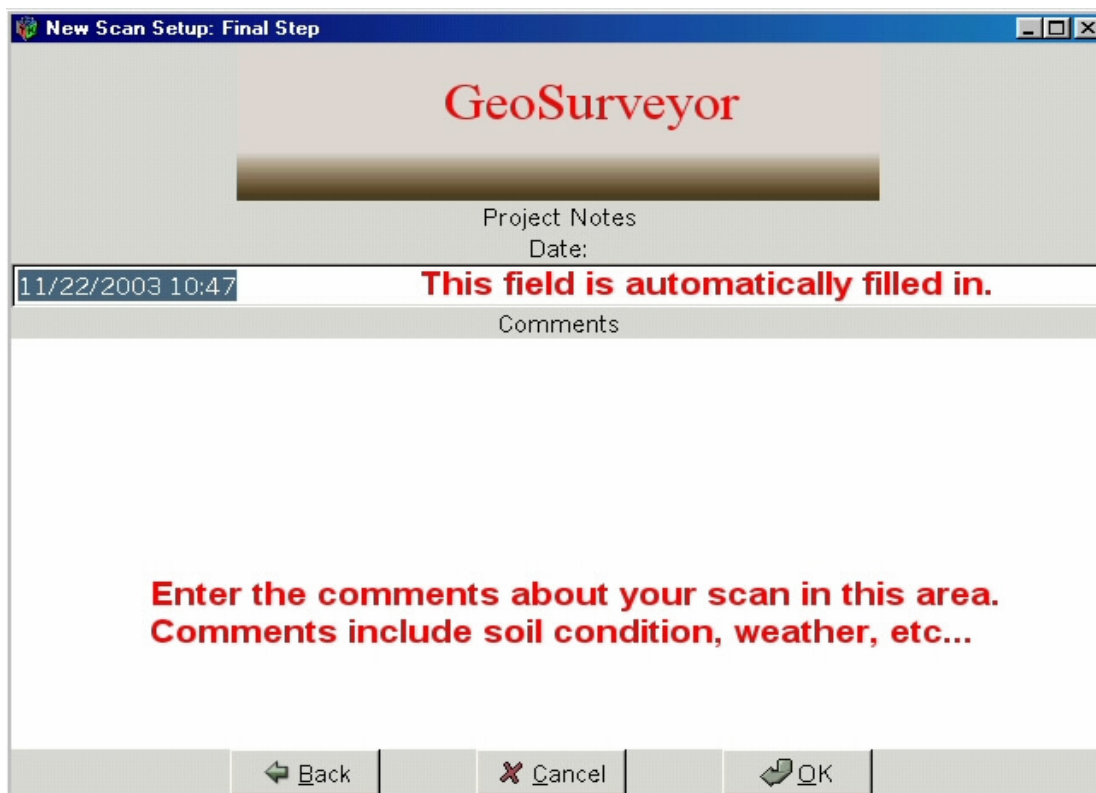

Figure 4.2
11. The next dialog box (Figure 4.2) is for comments about the scan that is going to be taken. Comments that are typically entered include weather, soil condition, adverse terrain, location of scan, etc... Once completed with the comments, which of course, can be entered after completing the scan as well, click on the “Next” button.